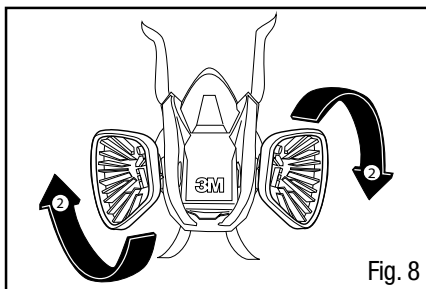

Fig. 8
2. Turn adapter 1/4 turn clockwise to stop. To remove adapter, turn 1/4 turn counterclockwise (Fig. 8).